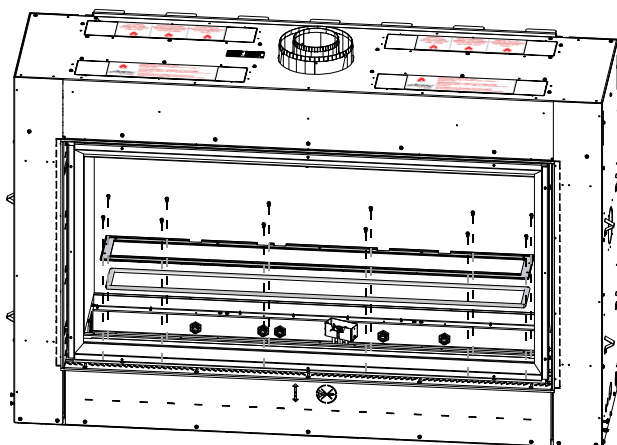

Fig. 2
- E. Remove the ember bed bracket and glass by removing the securing screws and lifting from the appliance (**Fig. 2**).